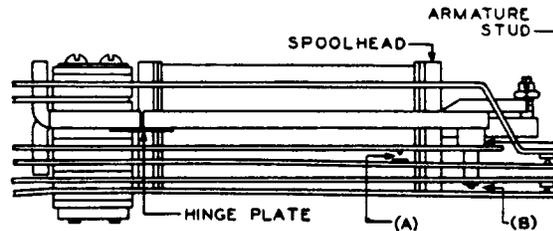

Fig. 106
**2.18 Stud Gap:** Fig. 106(B) — There shall be a clearance between the armature stud and the springs as indicated by S in Fig. 44. This clearance is regarded as having been met when the springs actually have a contact pressure of 25 grams or more regardless of the minimum tension specified, and if the normally
**2.19 Contact Separation:** Fig. 106(A) — The separation between any pair of contacts normally open or between any pair of contacts that are opened when the relay is operated shall be